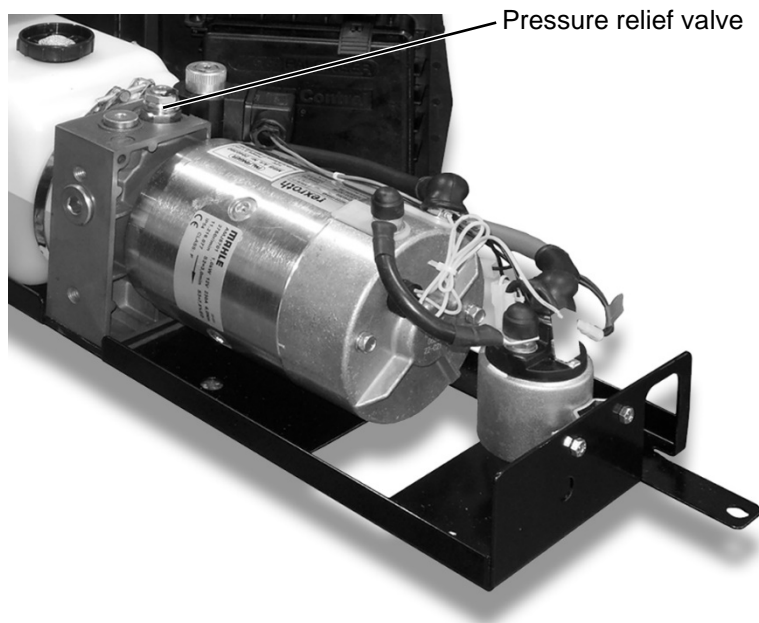

Figure 50: Pressure relief valve on the hydraulic unit
- ▶ Adjust the pressure relief valve so that the tail lift cannot lift more than 125% of its maximum load (see Figure 50).